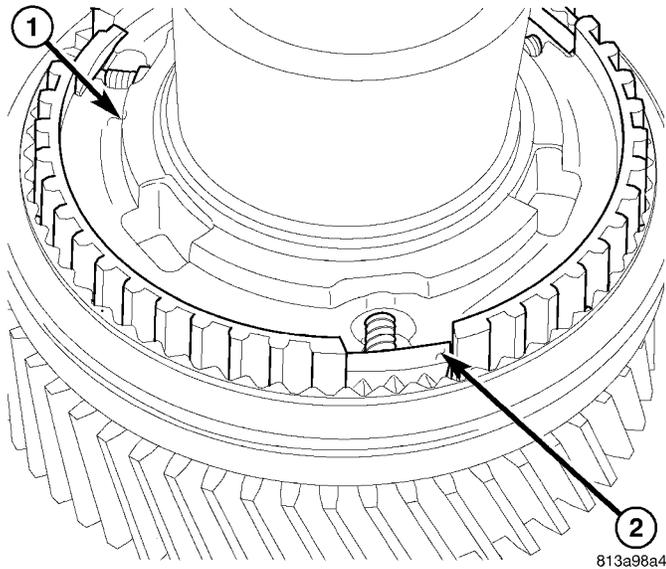

Fig. 66 1-2 SYNCHRO DETENT
(10) Install 1-2 synchronizer detents, springs, and balls (2) (Fig. 66).